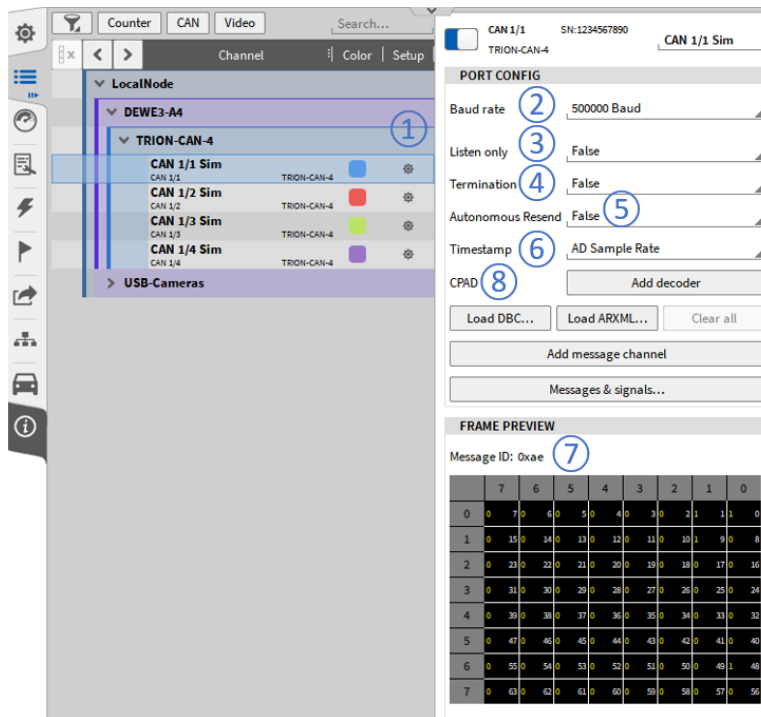

Fig. 7.199: CAN port configuration
To configure the CAN port properly, go to the Channel List and open the CAN port configuration of the dedicated CAN port by pressing the Gear button (see ① in Fig. 7.199).
- Baud rate (see ② in Fig. 7.199):
- Listen only (see ③ in Fig. 7.199):
- Termination (see ④ in Fig. 7.199):
- Autonomous Resend (see ⑤ in Fig. 7.199):
- Timestamp (see ⑥ in Fig. 7.199): Sets the time base on which the CAN signals are aligned.
The frame preview (see ⑦ in Fig. 7.199) will show a preview of the received messages if all settings (especially Baud rate and Termination) are set correctly and data is available on the CAN port.
CPAD (see ⑧ in Fig. 7.199): If a module of the CPAD series is connected to the CAN bus, a CPAD decoder can be added for decoding their messages and signals without the need for a proper dbc-file. For more information, refer to Using XRs / CPADs with OXYGEN.